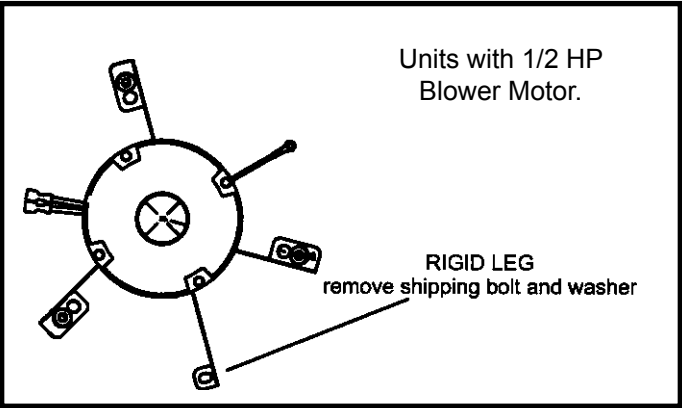

Figure 7
**NOTE:** Units with 1/2 hp blower motors are equipped with three flexible legs and one rigid leg. See Figure 7. The rigid leg is equipped with a shipping bolt and a flat white plastic washer (rather than the rubber mounting grommet used with a flexible mounting leg). The bolt and washer must be removed before the furnace is placed into operation. After the bolt and washer have been removed, the rigid leg will not touch the blower housing.